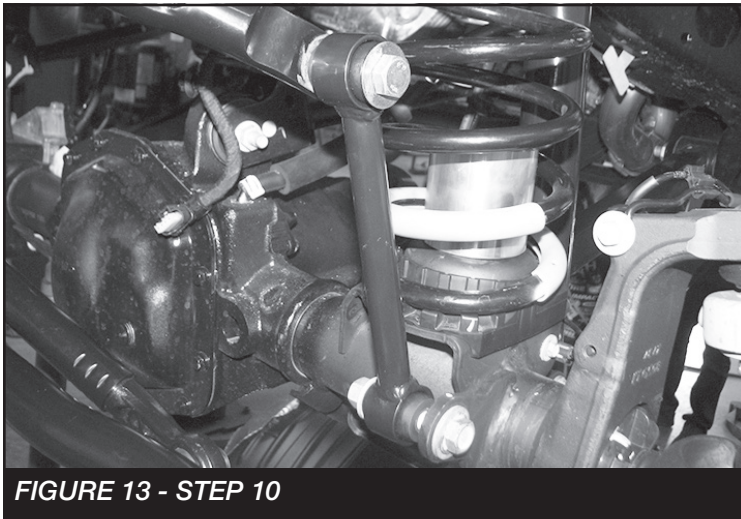

FIGURE 13 - STEP 10
10. Install FT50048 (Bushings) and FT404739 (Sleeves) into FT50261BK (Sway bar links). Then, install the links to the axle mount and sway bar using the supplied M12 x 70mm hardware for the upper location and the factory for the lower. Torque to 65 ft-lbs. **SEE FIGURE 13**